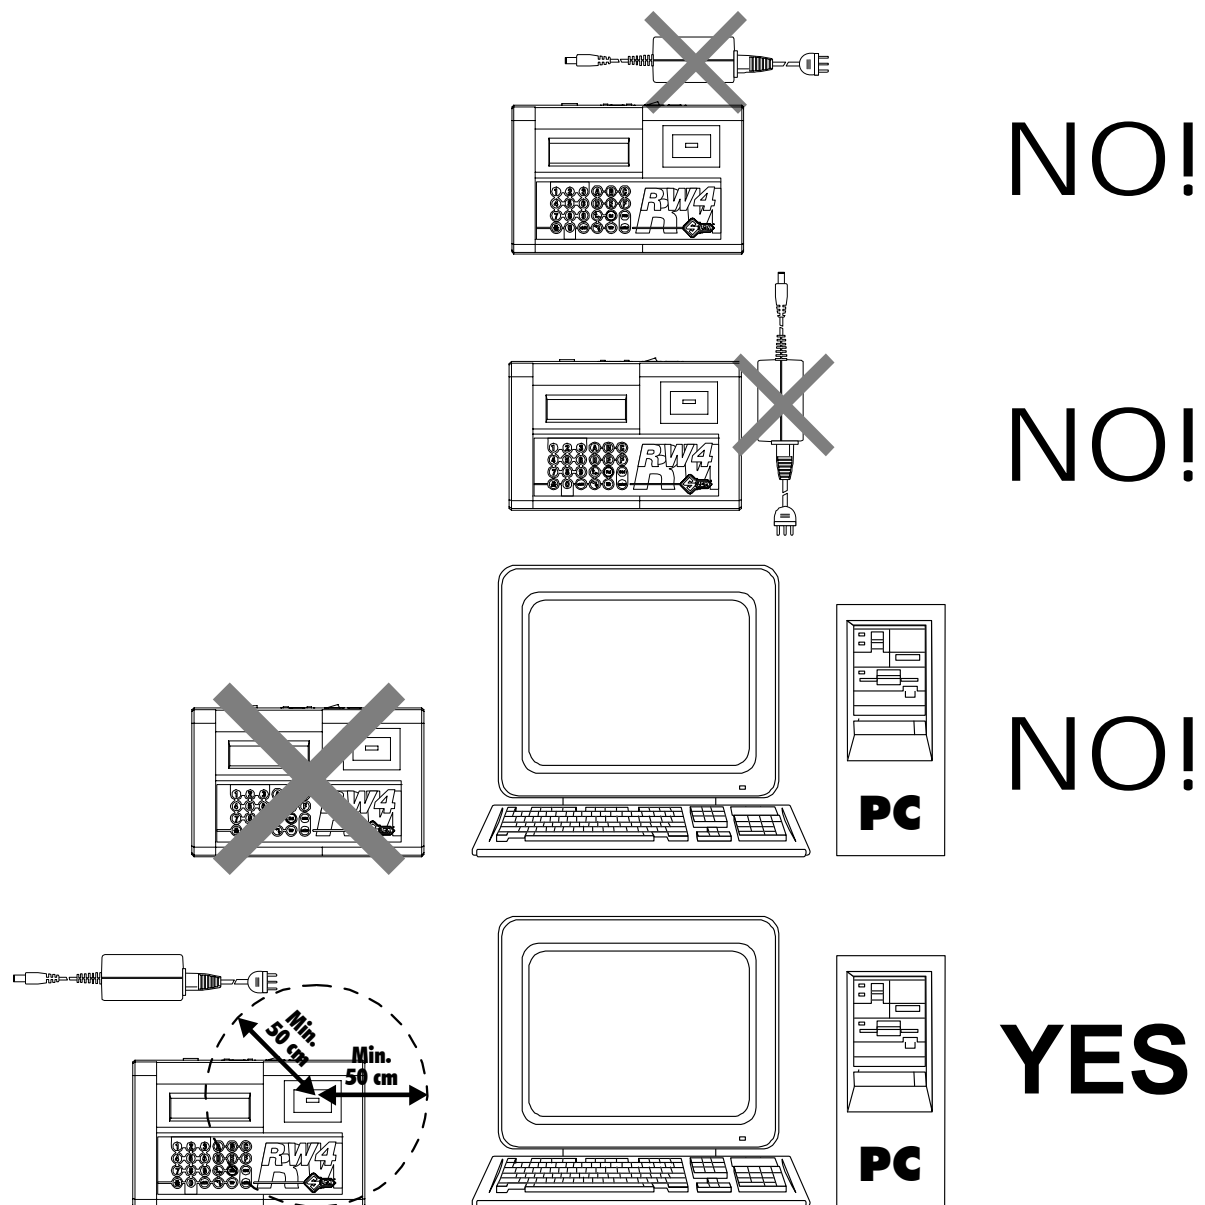

Fig. 5
**ATTENTION:** the universal feeder provided with the machine and any electronic equipment should be placed at least 50 cm from the antenna to avoid their generating interference which could affect reading and/or writing of the transponder (see Fig. 5, page 13).